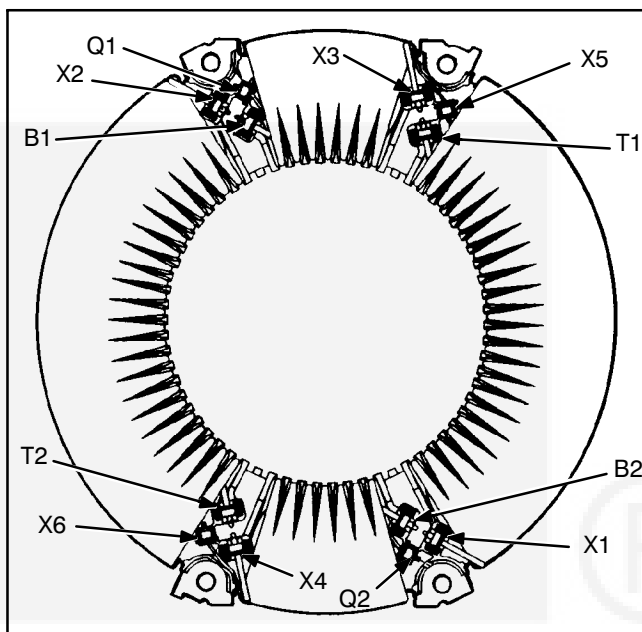

FIGURE 9-6. STATOR ASSEMBLY
Use an ohmmeter for stator winding tests. A *megger* or *insulation resistance meter* is preferable for grounded winding tests. The stator (Figure 9-6) can be tested without removing it from the generator. Remove the fan (see Generator Disassembly, p. 9-14) to gain access to the stator. To perform stator tests, carefully remove all four connector plugs from the stator.
**Tests for Ground Windings:** Use the highest ohmmeter scale if not using a megger. Touch one test prod to the generator housing or stack, if removed. Touch the other test prod (see Figure 9-6) to the terminals specified in Table 9-2. A resistance of less than 1 megohm indicates a grounded winding. Replace a grounded stator with a new stator.
**Tests for Open Windings:** To test for open windings, set the ohmmeter for the highest resistance scale and then connect the test prods (see Figure 9-6) to the terminals specified in Table 9-3. The ohmmeter should indicate continuity between terminals. A high resistance reading indicates an open winding. If an open circuit is measured replace the stator.